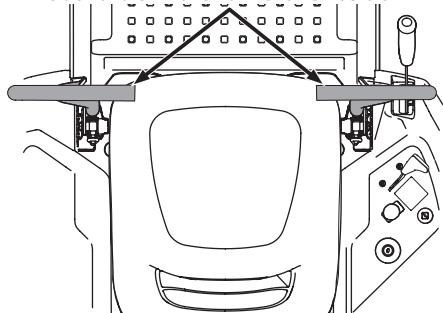

Figure 20
- Operator should be sitting in the tractor seat with the lapbar drive control levers fully out and in the park position. See Figure 20. Refer to Practice Operation for further instructions.